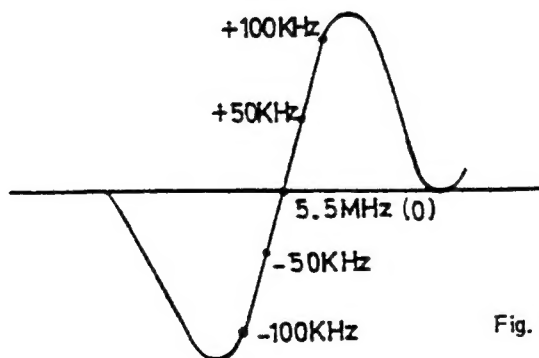

Fig. 14. SIF Response Curve
5. Adjust T104 for the marker (5.5MHz) of SIF waveform at the centre position Fig. 14.